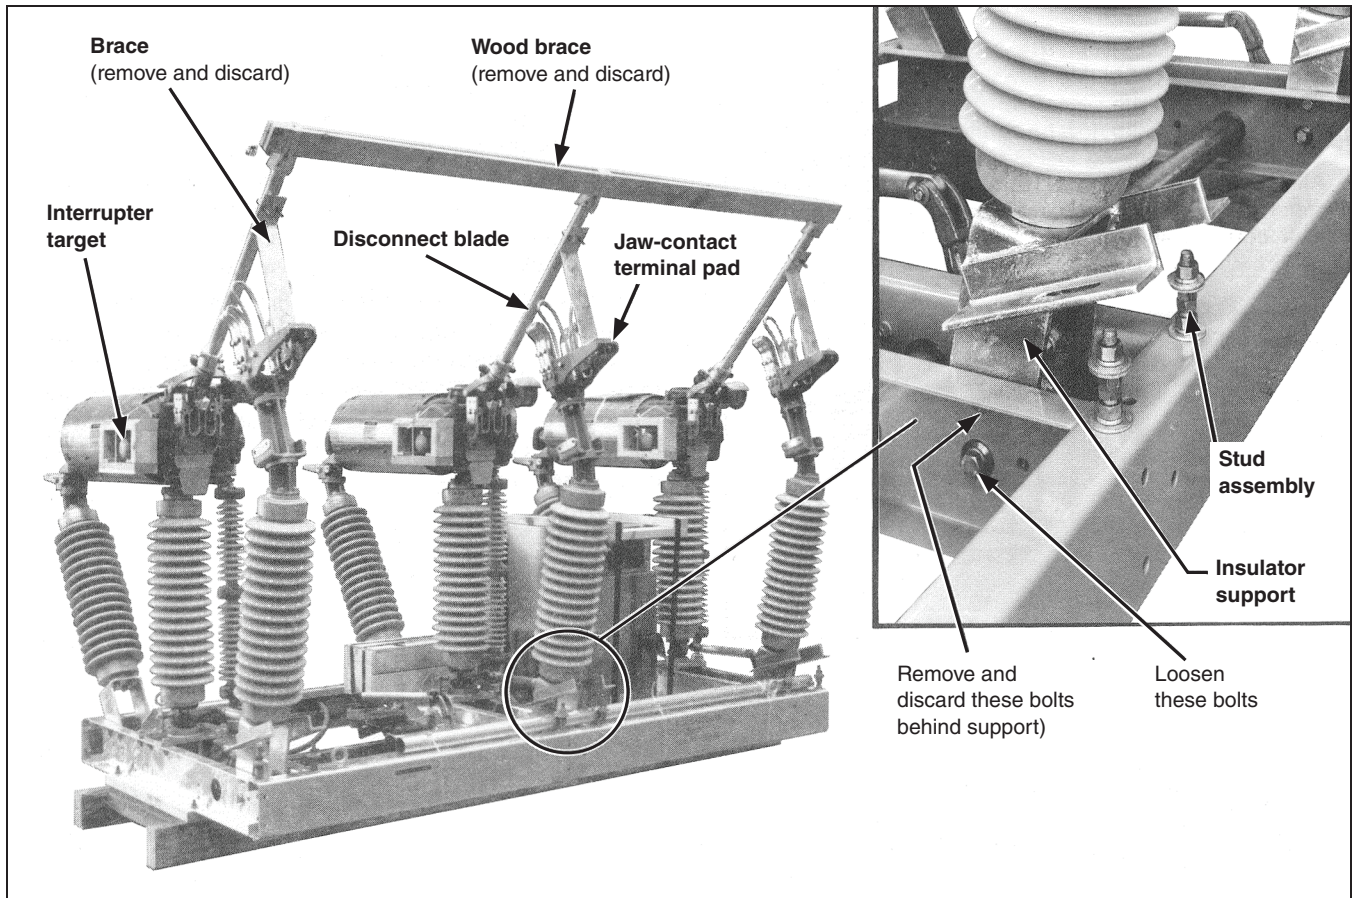

Figure 4. A 69-kV integer-style Mark V Circuit-Switcher with insulators tilted in position for shipment.
For circuit-switchers rated 69 kV only: To reduce shipping volume, the jaw-contact insulators have been tilted toward the interrupters and, as a result, the disconnect blades have been shipped in a partially **Open** position. See Figure 4. Two factory-adjusted stud assemblies are provided on the mounting-frame weldment, at each pole-unit position, for use in repositioning the jaw-contact insulators to the correct angle.
STEP 3. Remove from each stud assembly the top nut, lockwasher, and one of the two flat washers. See Figure 4 (inset). Leave the second flat washer in place. Do not disturb the factory setting of the remaining three nuts on each stud assembly.
STEP 4. Remove and discard the two upper bolts that secure the insulator support at each pole-unit position. See Figure 4 (inset). Loosen the two lower bolts that secure the insulator support at each pole-unit position and tilt the insulator forward until it rests on the flat washers remaining on the stud assemblies.